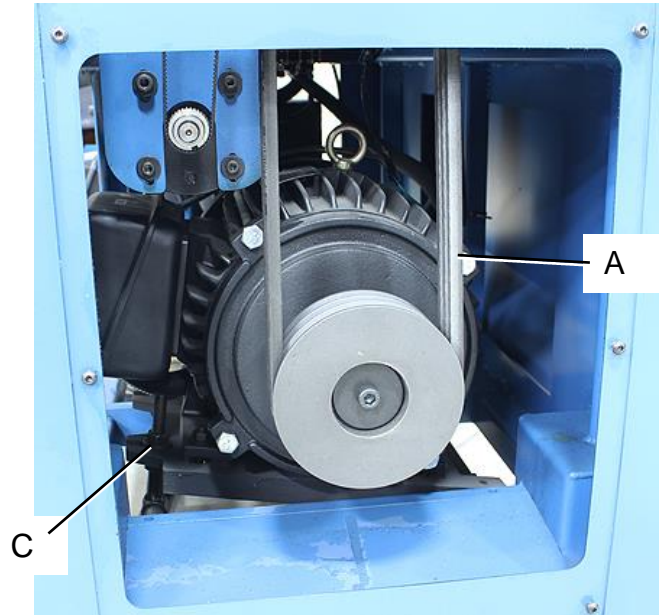

Figure 21
Three V-belts (A, Fig 21) drive the cutterhead. Belt tension has been set at the factory. If the belts have stretched and need adjustment.
3. Loosen and tighten four adjustment nuts (C, Fig 21) to move motor plate up, or down to increase, or decrease belt tension.